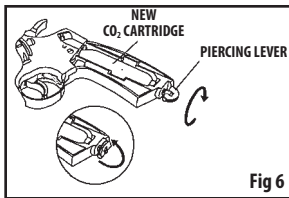

Fig 6
- With your thumb and finger, turn the piercing lever clockwise to pierce the CO2 cartridge. (Fig. 6)